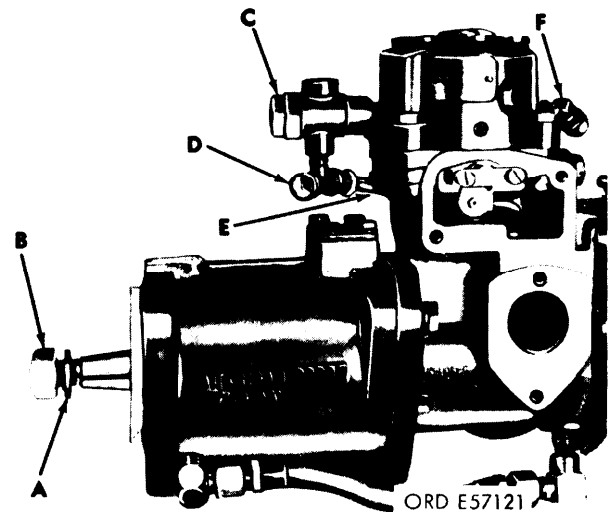
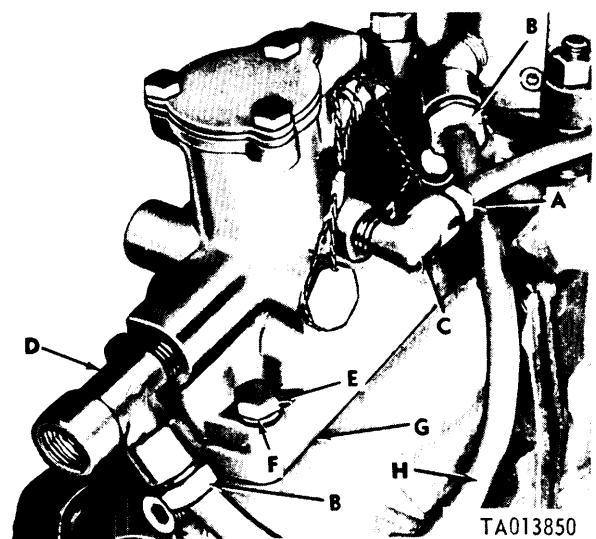

Figure 3-152. Installing overflow valve assembly
Figure 3-153. Installing fuel density compensator assembly.
b. Installation. Refer to figure 3-152. Install lockwasher (A) and stet nut (B) on advance unit shaft. Tighten nut finger tight. Install overflow valve assembly (C) in position on hydraulic head.
3-46. Installation of Fuel Density Compensator. *a. Installation of Fuel Density Compensator (Code B, C, D, E and F pumps).* Refer to figure 3-153. Position a new mounting gasket (G) on governor housing. Position fuel density compensator on governor housing and secure with four $\frac{1}{4} \times 1\frac{1}{4}$ capscrews (E) and four $\frac{1}{4}$ inch lockwashers (F). Torque tighten screws 50-60 inch-pounds. Install density compensator to overflow valve tubing (E, fig. 3-152). Connect tubing (A) to elbow (C). Install tubing (H) to tee (D) and elbow in hydraulic head (B).
b. *Installation of Fuel Density Compensator (Code A Pumps).* Refer to figure 3-155, Position a new mounting gasket (A) on governor housing. Engage dovetail in torque link stop (B) with dovetails on guide (C) and compensator plate (D). All dovetails must be properly engaged. Refer to a above and figure 3-153 to complete installation of compensator on injection pump.